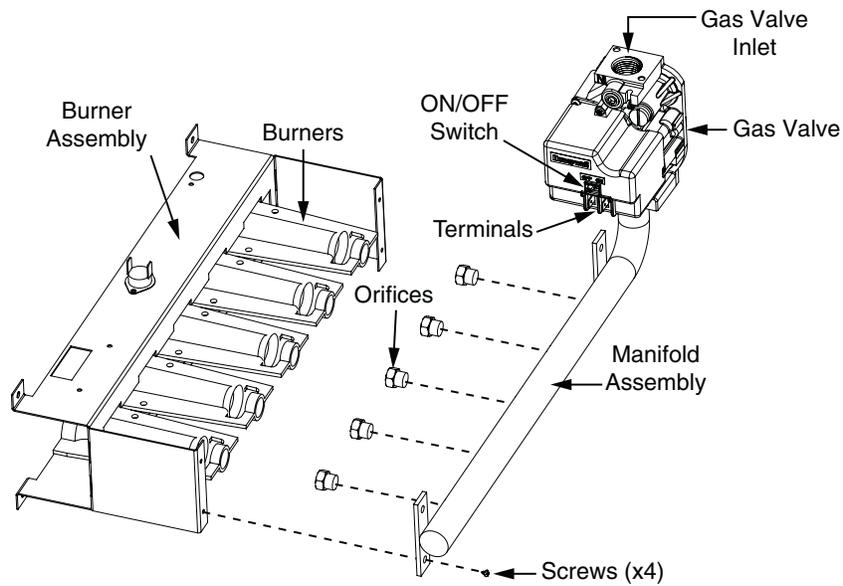

Figure 1. Burner & Manifold Assembly
5. Move the gas valve ON/OFF switch to the OFF position as shown in Figure 1. For For VR8205Q2381 gas valves, turn the knob to the OFF position.